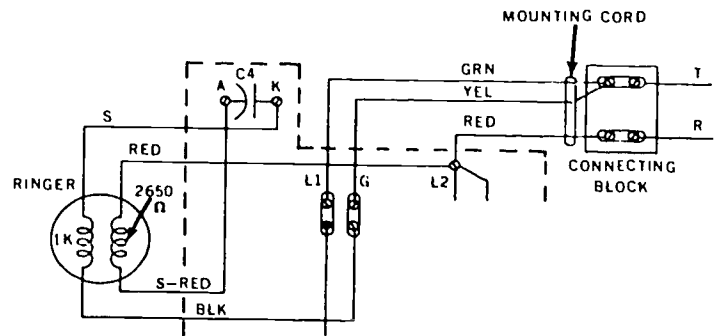

Figure 4-14. Partial telephone ringer circuit schematic diagram.
Alternating Current Circuit Analysis. Figure 4-14 illustrates a partial schematic diagram of a ringer. This ringer is equipped with several coils which enable the ringer to work when alternating current passes through them. How is this action possible? The information in the following paragraphs provides the answer to this question.
It appears that the circuit of figure 4-14 has two unknown factors: (1) the applied voltage and (2) the current. A little consideration, though, should reveal that Air Force telephone systems use a ringing current from signaling. Generally this AC has a potential of 90 volts at 20 cycles per second. Thus, by knowing the applied voltage and the resistance, we can determine the circuit current using Ohm's law.
- ___ 1. The coils of the ringer in figure 4-14 are parallel connected.
- ___ 3. Assuming 90 volts for the 1000-ohm ringer winding in text figure 4-14, the current is approximately 9 amperes.
4. Assuming that the 1K ohm winding of the ringer (fig. 4-14) is blackened and has a burnt odor, what defect should you suspect?